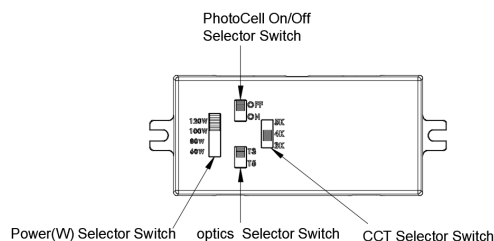

Fig. 2
2. Adjust the CCT and Power, Optical type by sliding the respective switch to the desired value as shown in Fig.2.